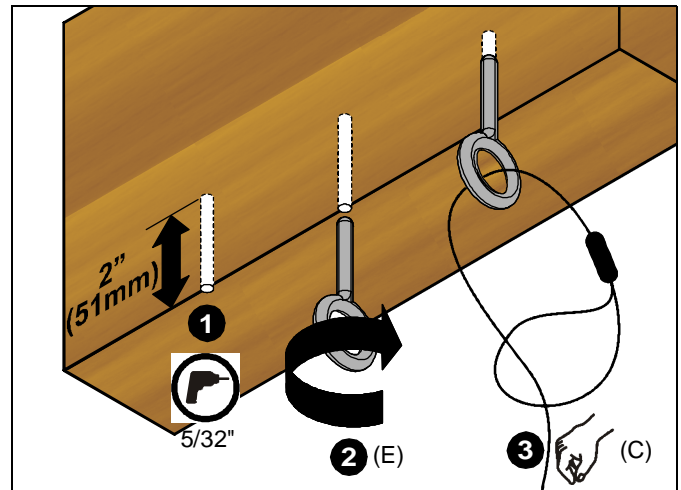

Figure 6
1. Drill 5/32" diameter x 2" deep hole at each marked cable anchor support location (See Figure 6). Remove debris from hole.
2. Fully thread eye lag (E) into each hole (See Figure 6).
3. Route end of cable (C) through eye lag (E) and then through cable loop (See Figure 6). Repeat for 3 remaining support locations.